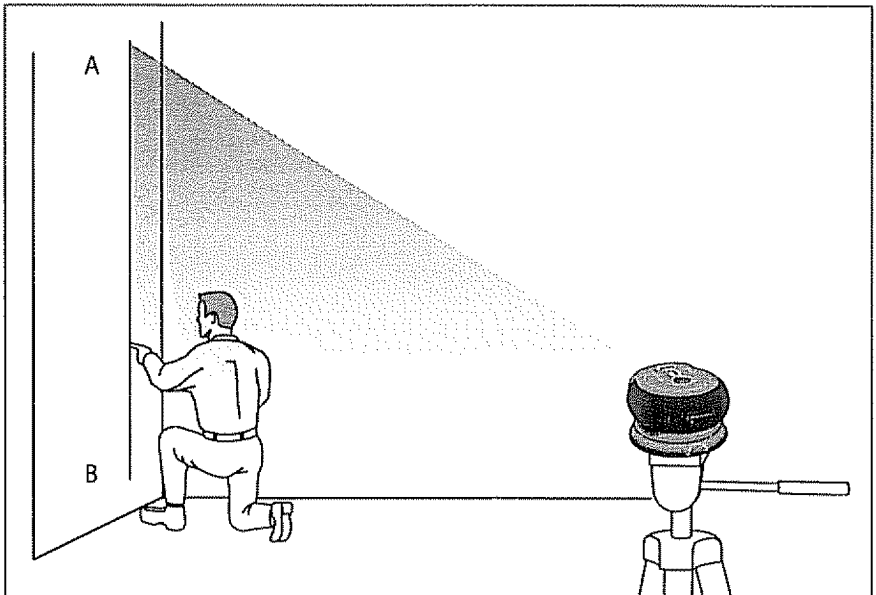

Fig. 12
Mounting The Level To A Tripod (See Fig. 12)
4. Determine a line with two points A, B (Fig. 12). Align your laser fan beam to these points.